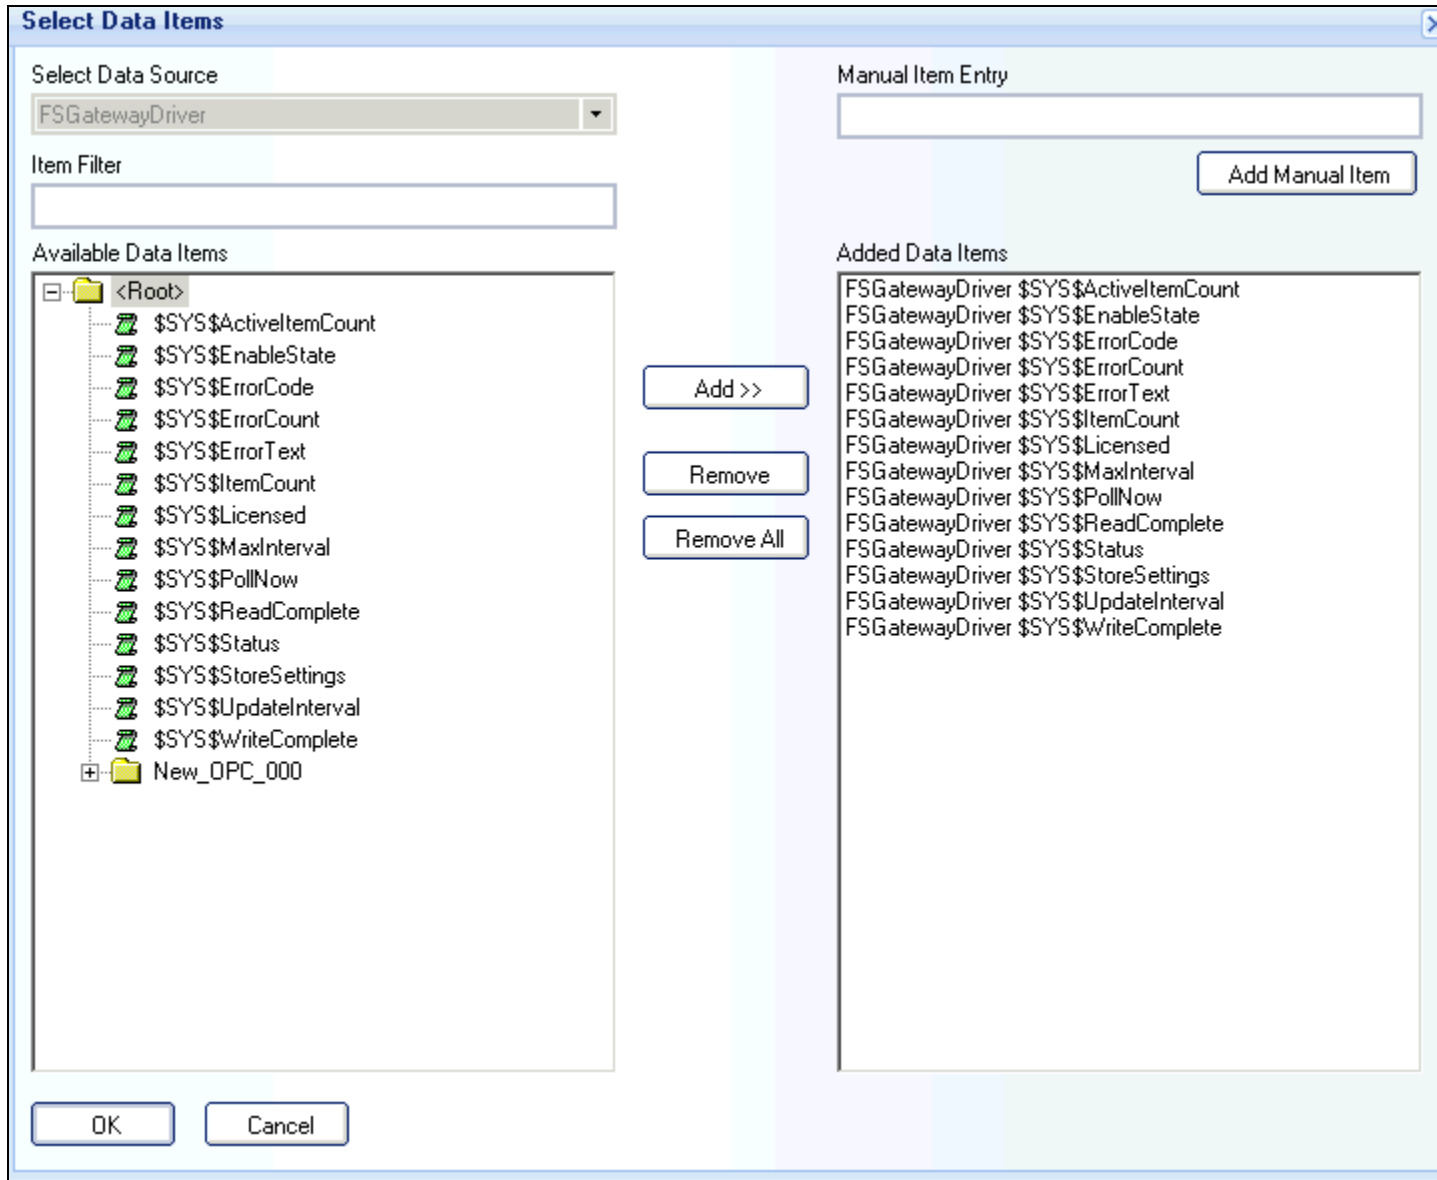

FIGURE 4: SELECT DATA ITEMS WINDOW
5. Click the **Add Items** button. The **Select Data Items** window appears (Figure 4 below).